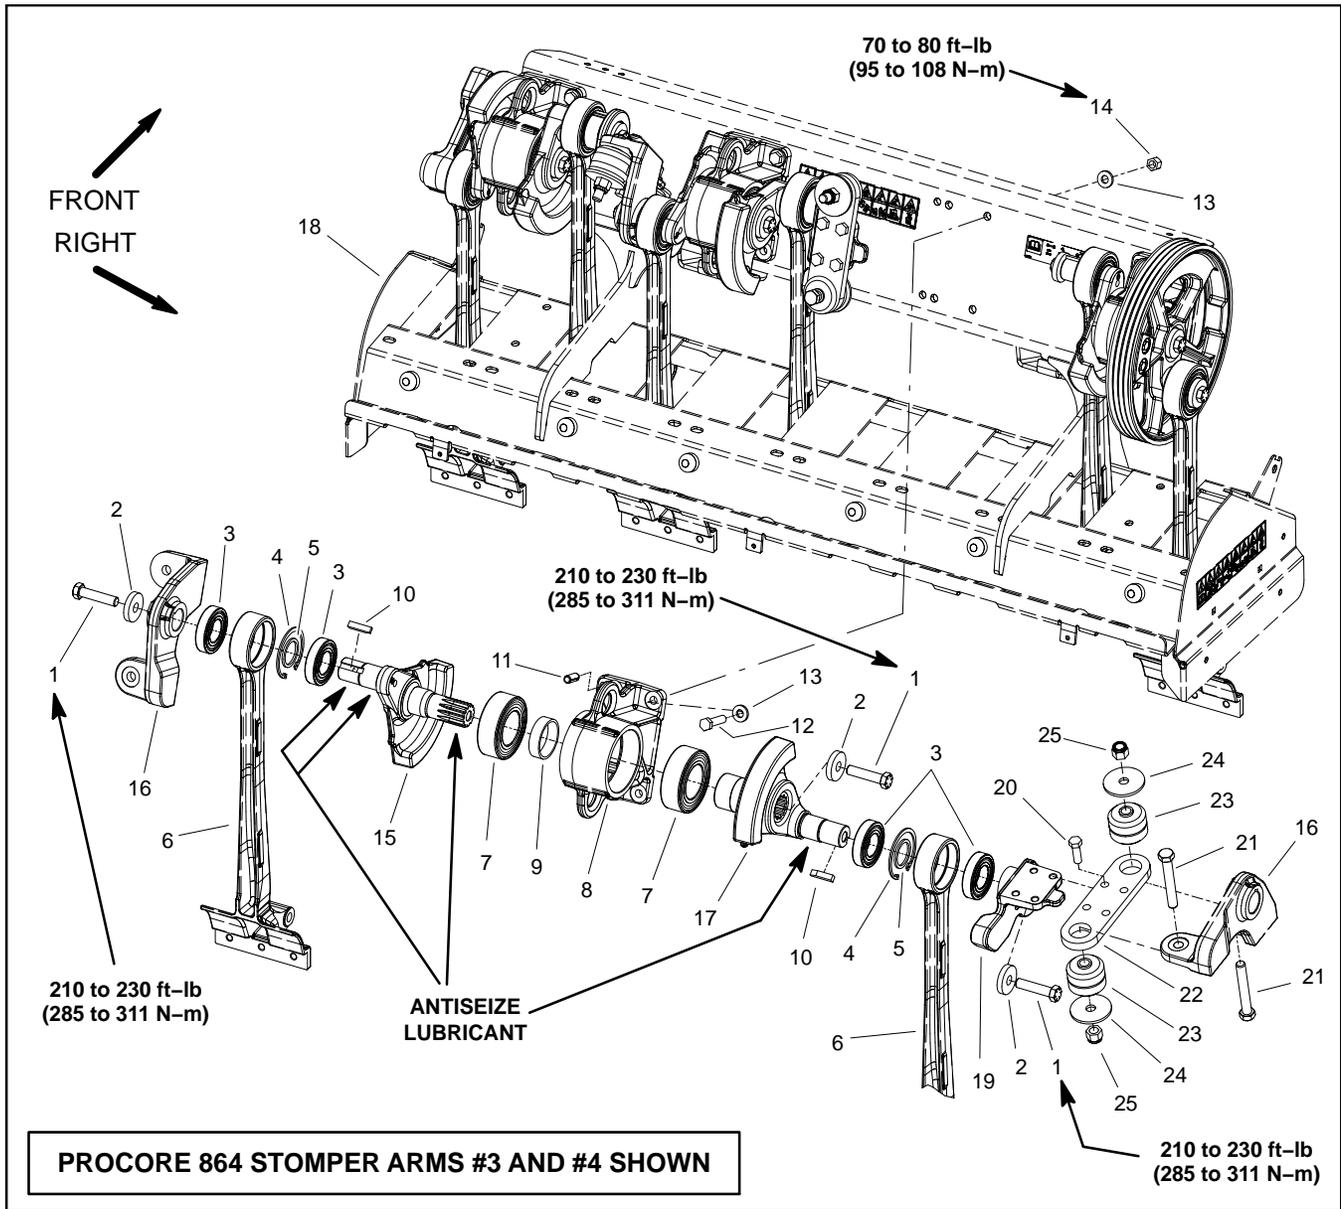
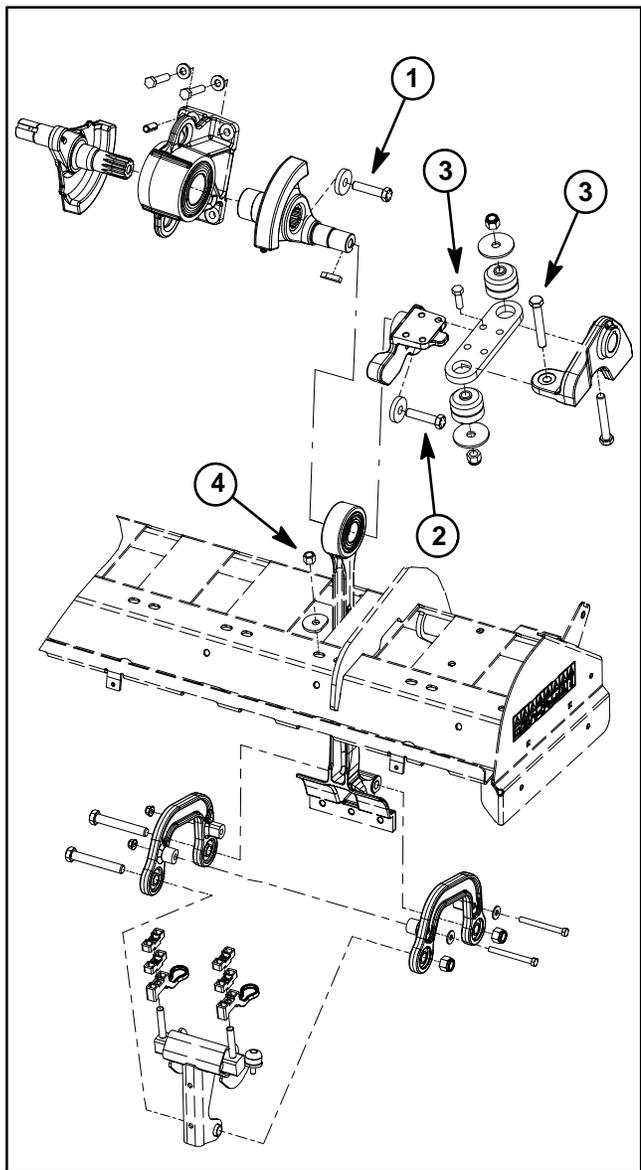

Figure 12
Figure 16
Removal (Fig. 12)
Installation (Fig. 12)
10. Once all stomper arm and crankarm components have been installed, fully tighten fasteners in the following order (Fig. 16). Tighten fasteners to the torque specifications identified in Figures 12 and 14: